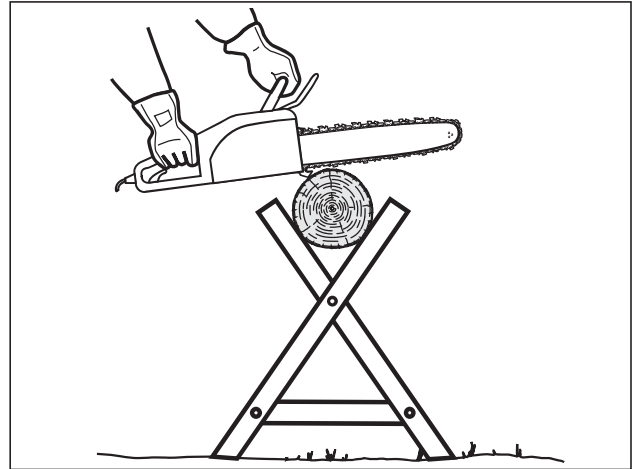

Fig. 29
- Support small logs on a sawing stand or another log while bucking(Fig.29).